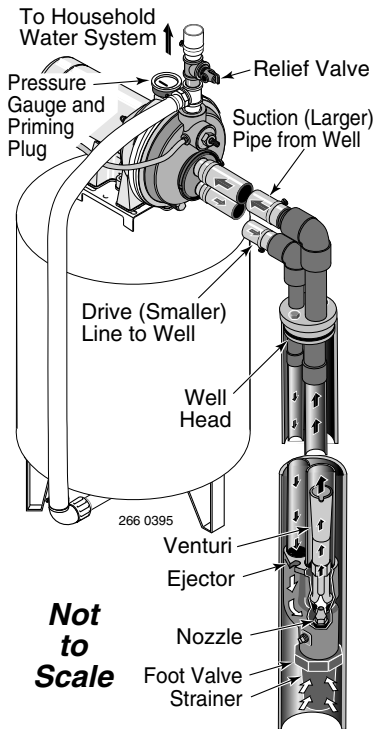

Figure 10: 4" and Larger Deep Well
4" OR LARGER WELL (Figure 10)
- Step 2. Assemble ejector kit FP4800 (sold separately). See Figure 10. Follow the instructions included with the kit in order to match the nozzle and venturi to your well conditions.